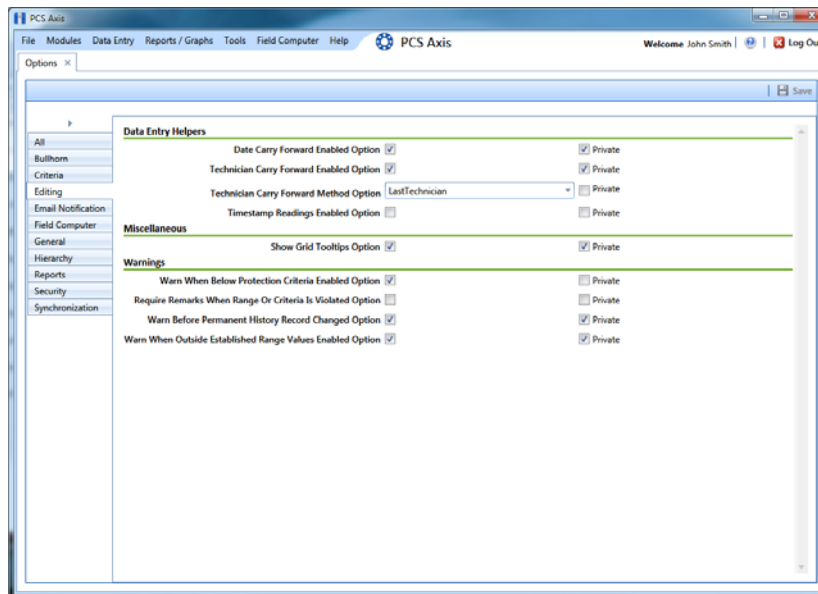

Figure 2-8. Editing Options
- 2 Click the **Editing** tab to open the *Editing* options page (Figure 2-8).